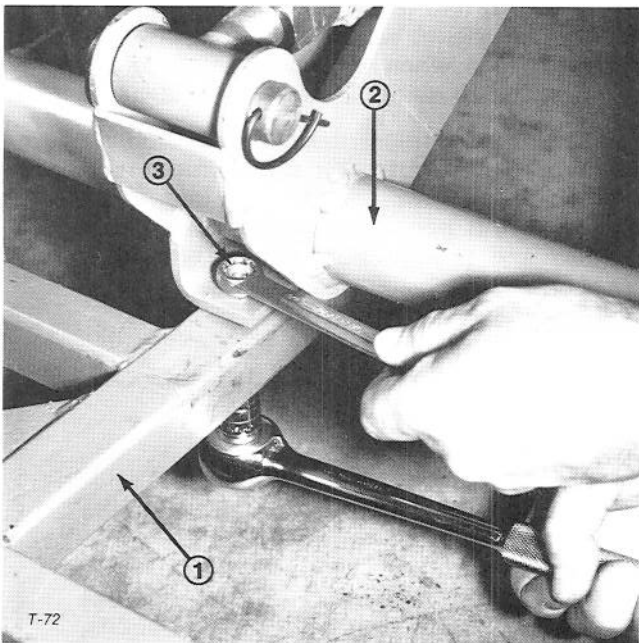

Figure 10
4. Align holes in snowthrower frame with adapter frame holes, insert 3/8 X 2-1/2 inch capscrews with 13/32 inch heavy flatwashers into snowthrower frame from bottom, through the hole in the adapter frame and secure the two with flange nuts (Fig. 10).